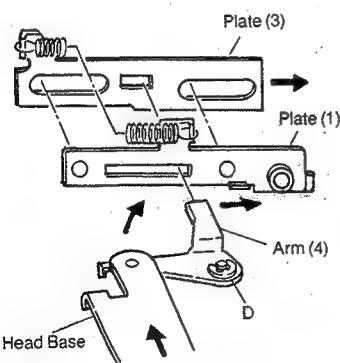

Fig. 8
1. The head base is kept engaged with Plate (3) through Arm (4). Plate (3) moves to the right and causes Arm (4) to rotate with point D as a fulcrum and, in turn, to cause the Head Base to move forward (see Fig. 8). However, it is necessary that the Head Base not move forward until the cassette drops into position.